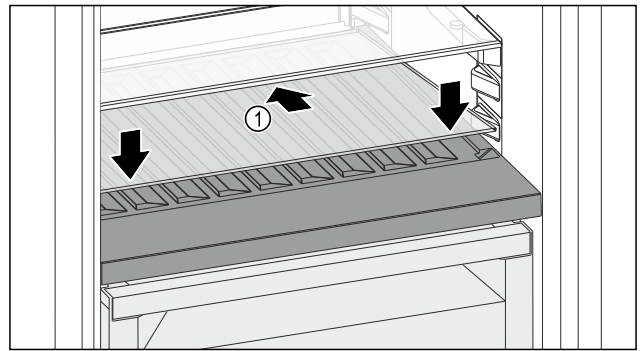

Fig. 228
- Place the glass shelf Fig. 228 (1) at an angle, sloping it downwards and backwards.
- Lower the glass shelf Fig. 228 (1) at the front.